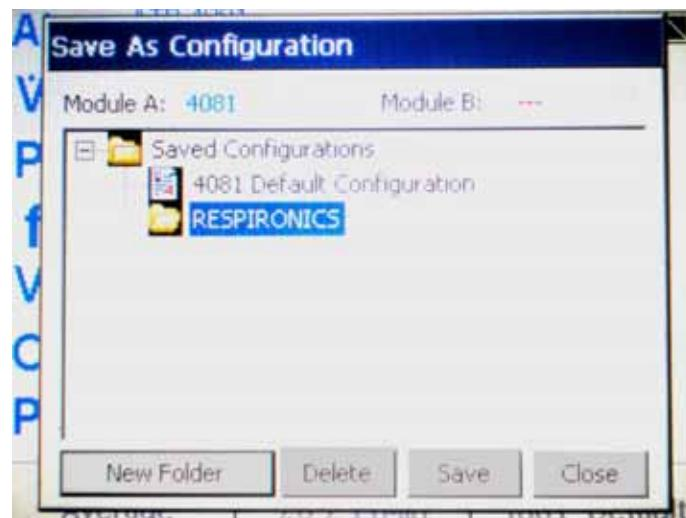

Figure 8-10: Save As Configuration Screen
5. Verify that *RESPIRONICS* is highlighted and touch **Save** (refer to Figure 8-10).